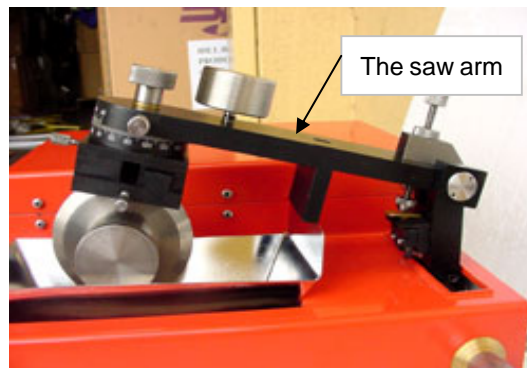

Figure 8
- Gently lower the arm with the specimen onto the diamond wheel very gently to begin cutting of the specimen (Fig. 8).